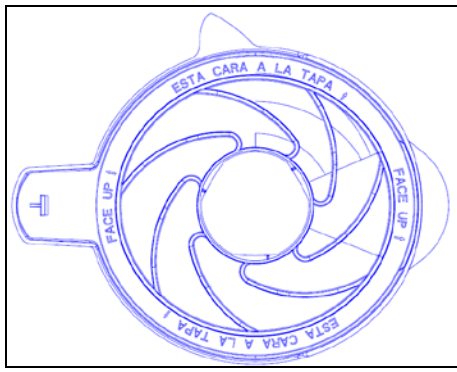
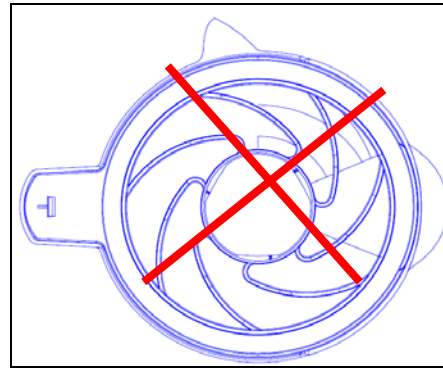

Figure 15
Figure 16
1. SS jar cover: To cover the jar. A sealed ring inside can avoid the food, soup or vapor spil ;When assemble the seal ring “ESTA CARA A LA TAPA↑,FACE UP ↑”the warning words should be faced to consumer see below Figure 15,Otherwise, the liquid would be spilled.(Figure 16)